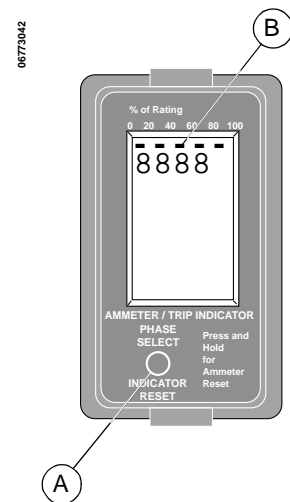

Figure 47:
The trip indicator, Cat. No. ALTIP (Figure 47), displays "OVERLOAD," "SHORT CIRCUIT," or "GROUND FAULT" when the circuit breaker has experienced a trip condition. After the circuit breaker has cleared the fault and is reset, the trip indicator must be manually reset by pushing the indicator reset button (A).